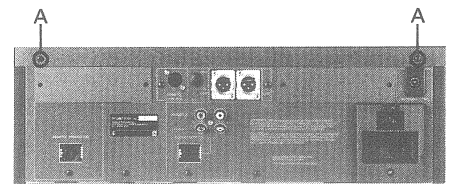

Fig. 2.1
2.1 Removing the top cover (Fig. 2.1)